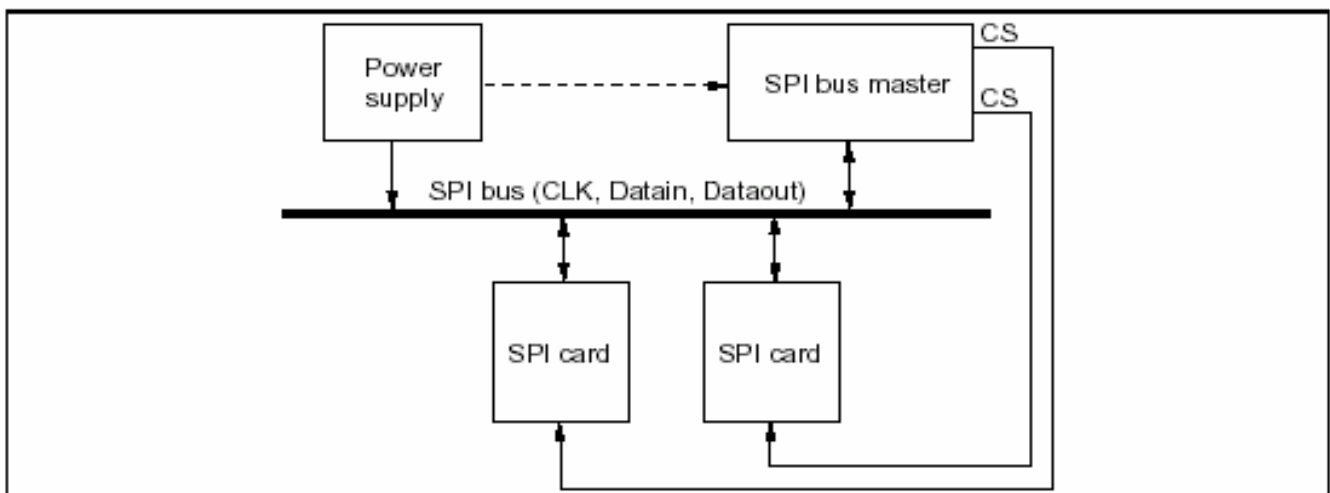

Figure 4-3 SPI Bus System
The MultiMediaCard card identification and addressing algorithms are replaced by hardware Chip Select (CS) signal. There are no broadcast commands. A card (slave) is selected, for every command, by asserting (active low) the CS signal (see Figure 4-3). The CS signal bust is continuously active for the duration of the SPI transaction (command, response and data). The only exception is card-programming time. At this time the host can de-assert the CS signal without affecting the programming process. The bi-directional CMD and DAT lines are replaced by unidirectional dataIn and dataOut signals. This eliminates the ability of executing commands while data is being read or written and, therefore, eliminates the sequential and multi block read/write operations. The SPI channel supports only single block read/write.